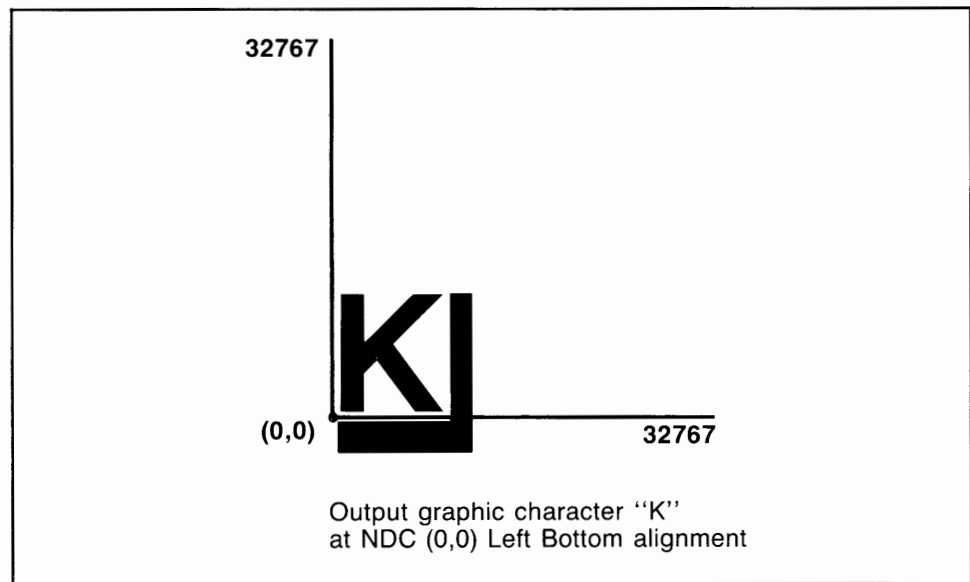

Figure 2-6. Clipping
- Graphics and alpha text characters are entirely clipped if any part of the character cell is not in the valid NDC range, as shown in Figure 2-6.